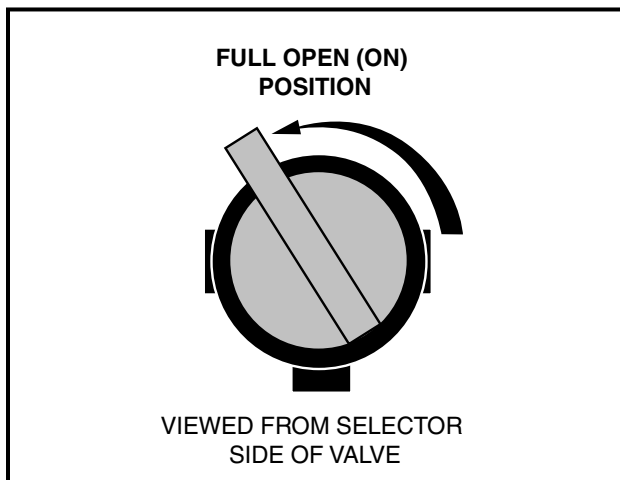
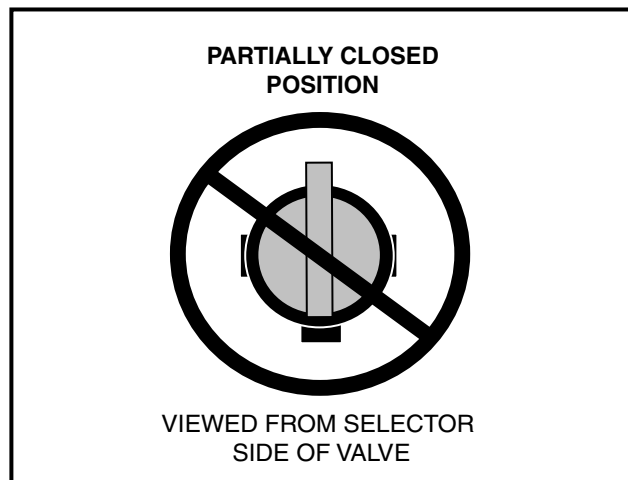

Figure 3-4 Fuel Shut-off Valve – Open
Figure 3-5 Fuel Shut-off Valve – Partially Closed Position
5. Completely open fuel shut-off valve (**Figure 3-4, Page 3-4**). Make sure the valve is fully open. A partially closed fuel valve (**Figure 3-5, Page 3-4**) combined with the use of the choke, can result in a fouled spark plug and engine failure.